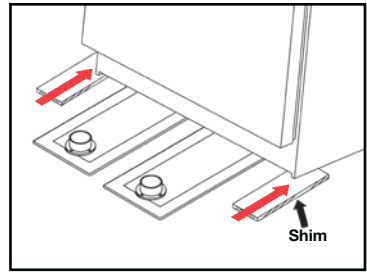

Figure 4
- If the gap between the floor and the bottom of the load is less than $\frac{1}{2}$ " , check whether the load can be safely tilted back $\frac{1}{2}$ ". If so, tilt back and place a $\frac{1}{2}$ " shim under the front corners to create the $\frac{1}{2}$ " gap. (See figure 4.)